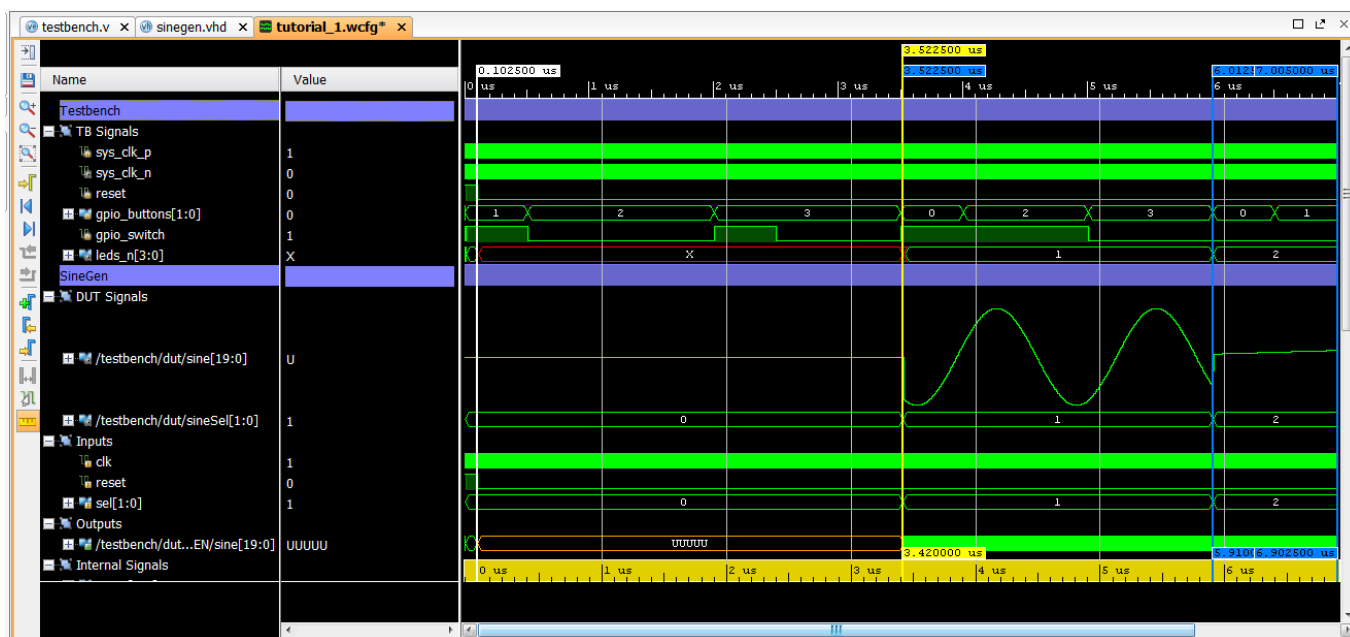

Figure 26: Measuring Time in the Waveform
10. Because 0 is the initial or default FSM output, move the cursor to the first posedge of `sys_clk_p` after reset is asserted low, at time 102.5 ns, as seen in Figure 26.
As shown in Figure 26, the ruler measures a time period of 3.420 ns as the period that FSM selected the low frequency output.